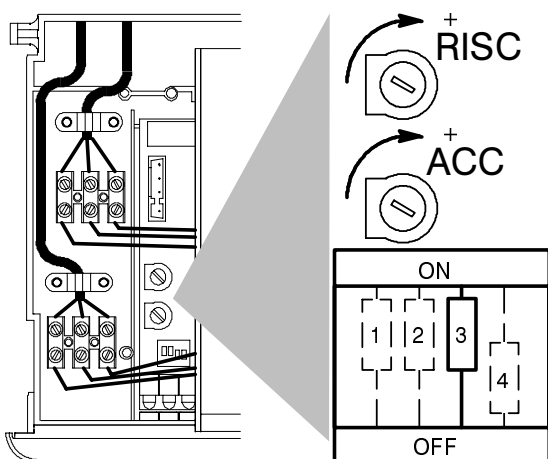

Fig. 7.8
- 14 Check the ignition gas pressure by setting dip-switch "3" (Fig. 7.8) to the OFF position. Compare the value on the gauge with the value
To adjust the ignition gas pressure, set dip-switch "3" (Fig. 7.8) to the OFF position and adjust potentiometer marked "ACC" with a screwdriver until correct ignition gas pressure is obtained.
With the boiler operating in c.h. mode, use a suitable screwdriver to turn the adjustment potentiometer marked "RISC" (Fig. 7.8). Rotating the potentiometer anti-clockwise reduces the maximum supply current to the gas modulator device, and thus reduces the gas pressure to the burner.